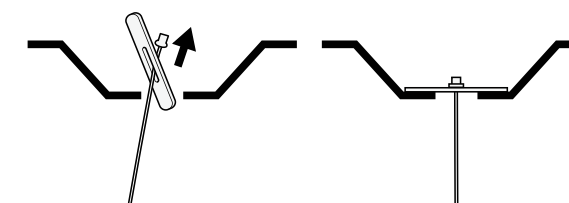

FIGURE 10. Cable suspension from metal decking (by others).
- 1) In lieu of a fastening bracket, the LYRA II IQCC may be installed into a concrete or metal ceiling, with a cable suspension system. When using a cable suspension system, the first step is to thread the wire through the unistrut that will be anchored to the ceiling. (See **FIGURE 10**).